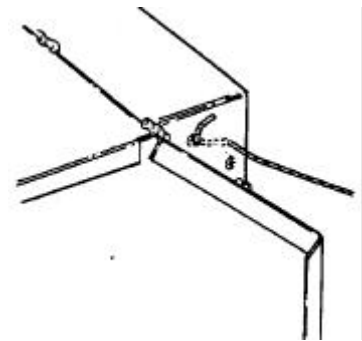

Figure 3 Upper cable route
- The convection box has two holes on each end of the debris deflector. Insert one end of each cable (one cable each side) from the back through the lower of the two holes and return the end through the upper of the holes as shown in figure 3. Give the cables a pull so that they grip against the debris deflector flanges.